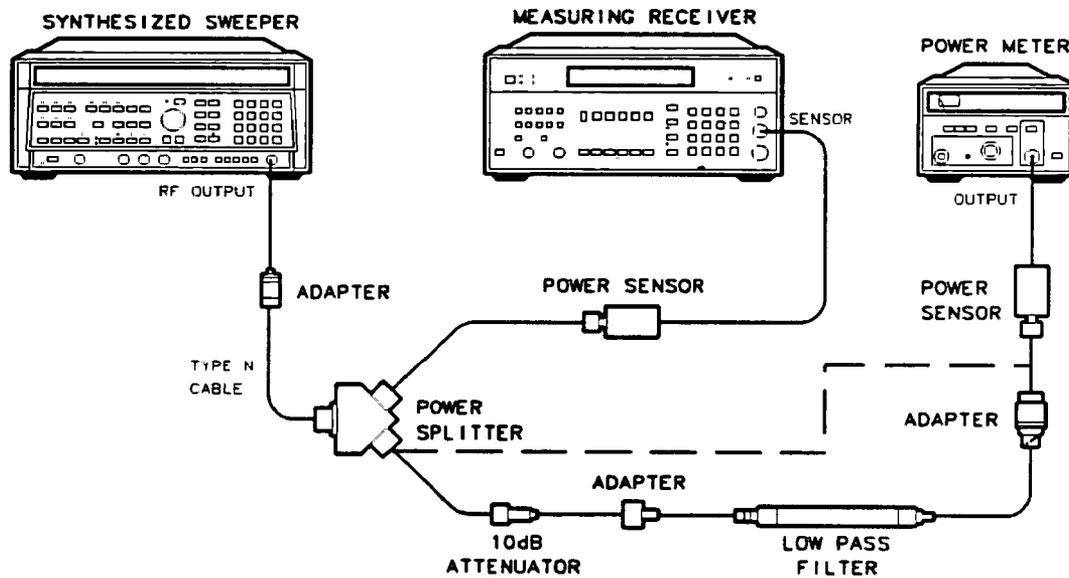

Figure 4-12. LPF Characterization
3. Connect the equipment as shown in Figure 4-12. Connect the HP 8484A directly to the power splitter (bypass the LPF, attenuator and adapters).
7. Connect the LPF, attenuator and adapters as shown in Figure 4-12.